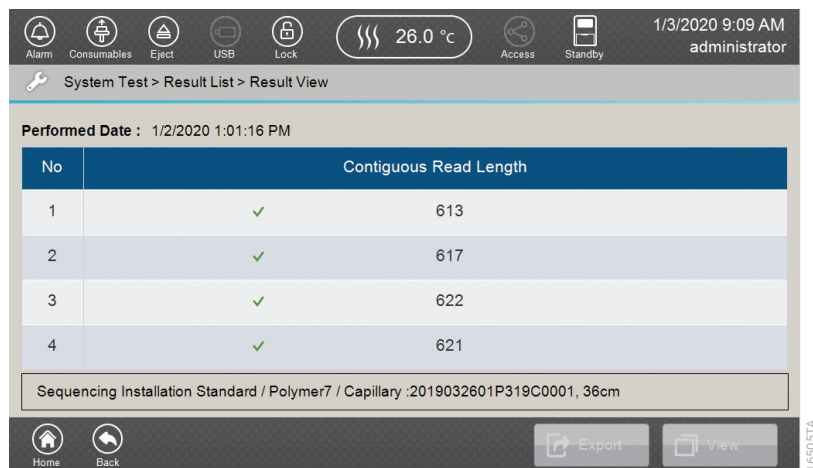

Figure 216. Sequencing System Test 'Result View' screen.
3. Select **View** in the footer to view a list of samples in that run in the 'Result View' screen (Figure 216). **View** and **Export** do not become active until a sample is selected.
4. Select **View** in the footer to view the list of four samples in that system test in the 'Result View' screen (Figure 216).